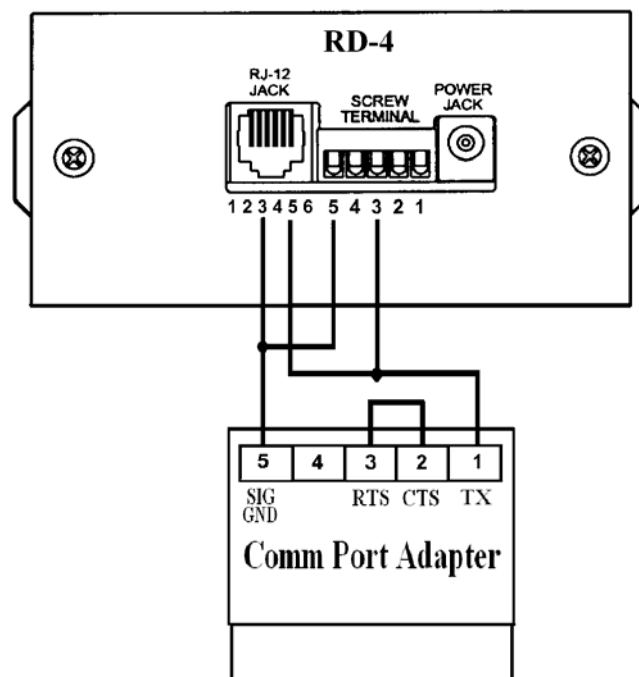

Figure 2. RD-4 Wiring
21. Connect the RS-232 input to the 1250 serial cable, connect the serial cable to the 1250. (See Figure 2.) Cycle the power on the 1250 and the RD-4.